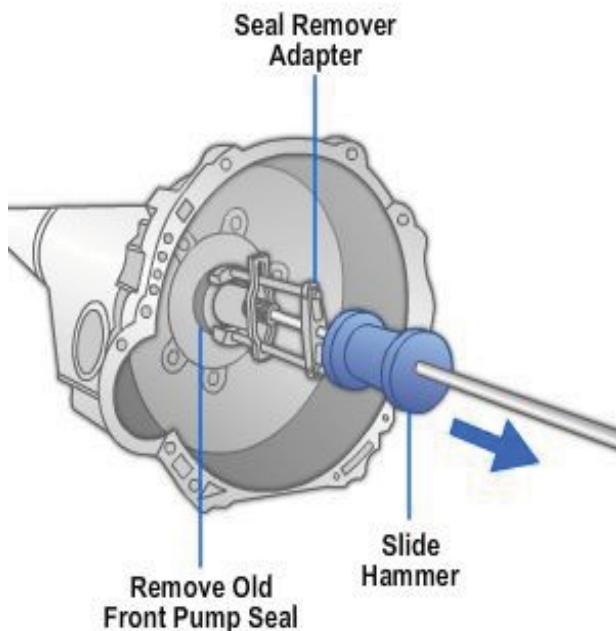
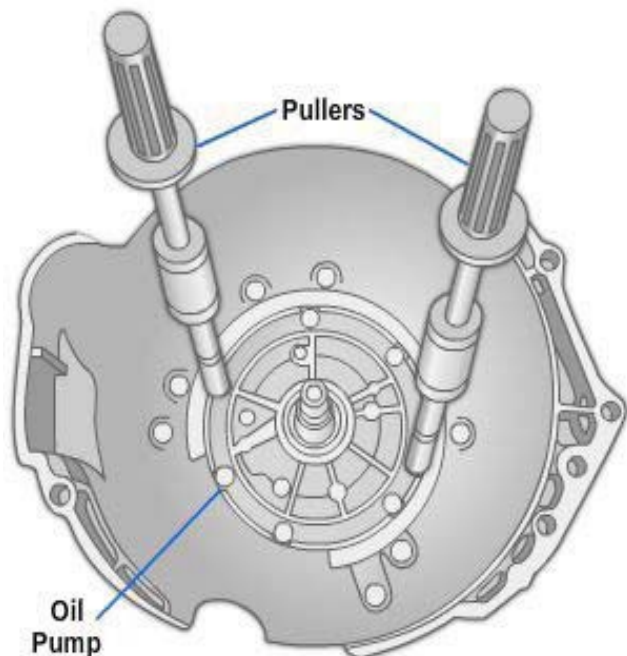

Figure 7-16 – Removing oil pump seal.
Figure 7-17 – Removing oil pump.
9. Remove the front oil pump oil seal (*Figure 7-16*). It is generally easier to remove the seal before the oil pump is removed (*Figure 7-17*) because the extra weight of the transmission assembly allows you to use the slide hammer more efficiently. You should always replace the seal when the pump is serviced.